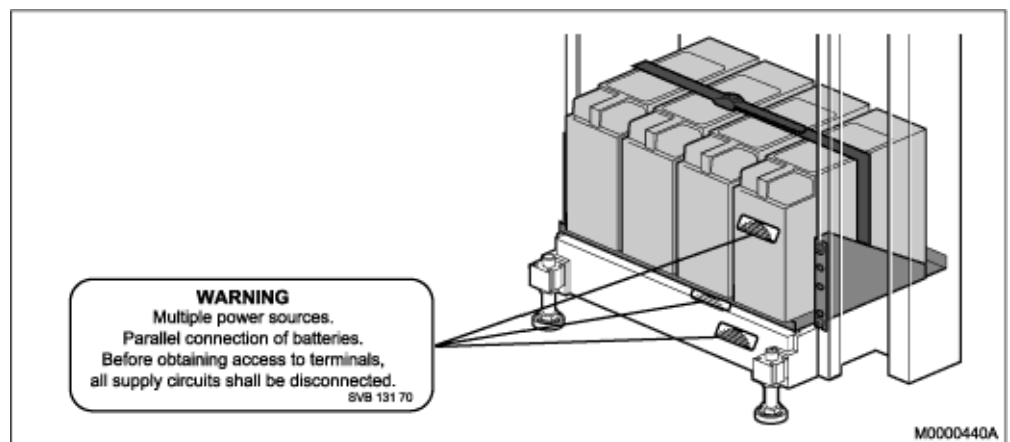

Figure 17: Parallel Connection of Batteries Warning Label
12. Fasten three warning labels, parallel connection of batteries (SVB 131 70), one on the right-hand side battery, and two at the bottom of the cabinet, see Figure 17: Parallel Connection of Batteries Warning Label on page 23 and see Figure 35: Warning Label SVB 131 70 on page 41.